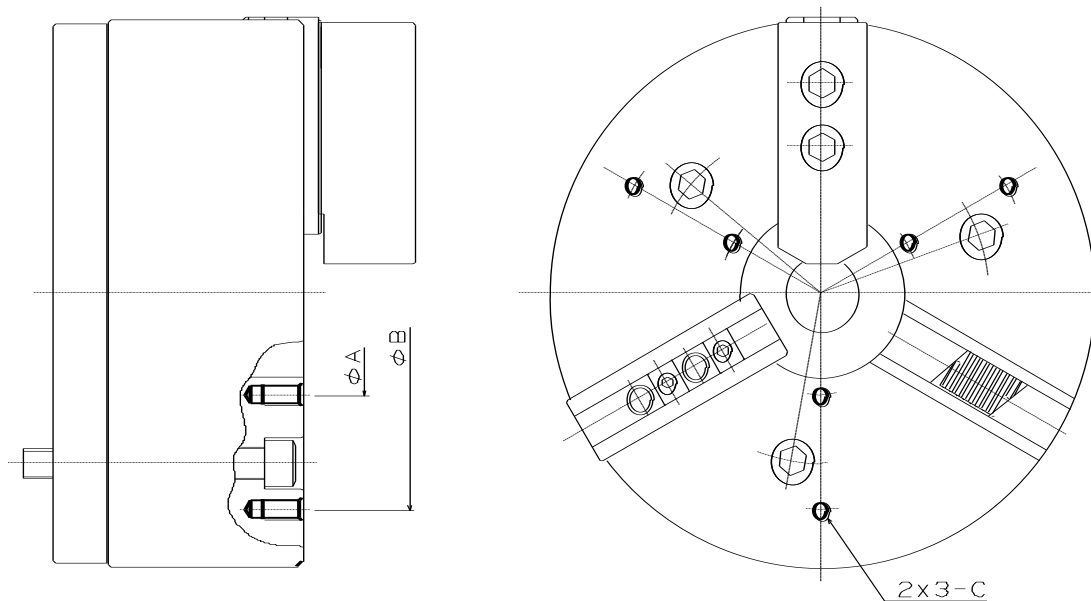

Fig.11
- In the case of attaching the locator and the jig on the chuck surface, use the taps specified in Fig. 11.